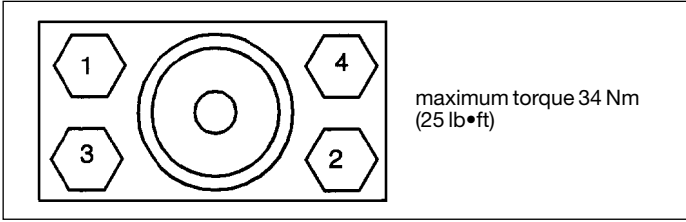

Figure 33: Connector Bolt Torquing Sequence
- Continue to tighten in steps of 7 Nm (5 lb•ft) using the same sequence. The maximum torque needed for safe operation is 34 Nm (25 lb•ft) per Figure 33.